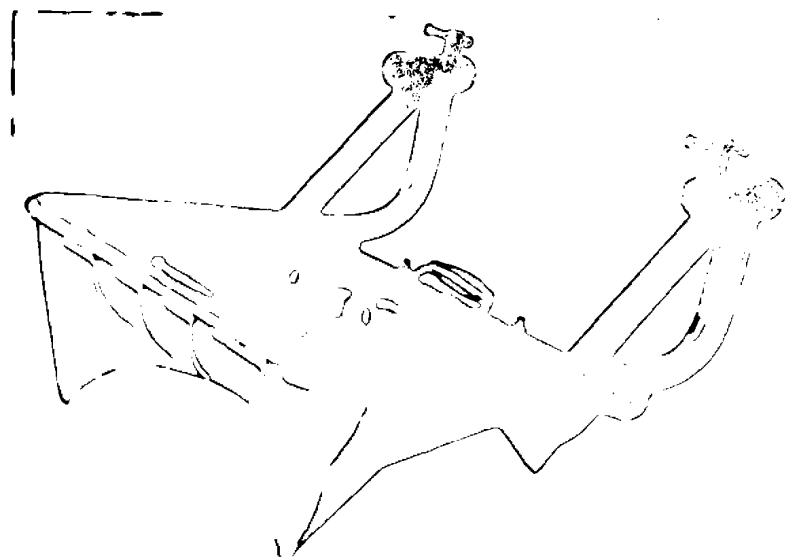

Fig. 23 -- Base plate assembly, with stop
- Fig. 23 — Sighting device bracket